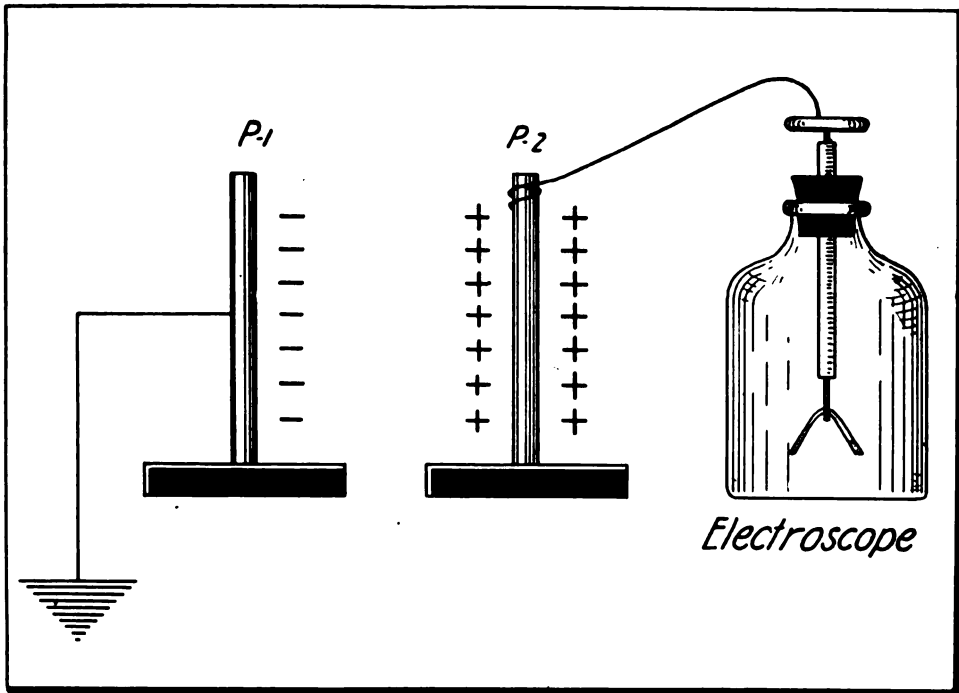

Figure 9
(1) If plates P-1 and P-2 are placed very close and a number of additional charges are supplied to P-2, the normal charge of P-2 will be restored as shown by the divergence of the leaves, that is to say, P-2 returns to its original **electrical potential**.
(2) It is to be especially noted that, inasmuch as a greater quantity of electric charge is required to raise P-2 to its original potential when placed near to P-1, it is said that the capacity of P-2 for holding an electric charge has under these conditions been increased.
(3) It should now be clear that the capacity of a body is measured by the amount of electricity which must be placed upon it in order to raise its electrical potential to a definite value.
(4) The apparatus of Figure 9 is called a **condenser** and a condenser always consists of **two metallic plates** separated by an **insulating material** which may be air, glass, micanite, hard rubber or any of the well known insulating materials. The most common form of electric condenser is the **Leyden jar**.